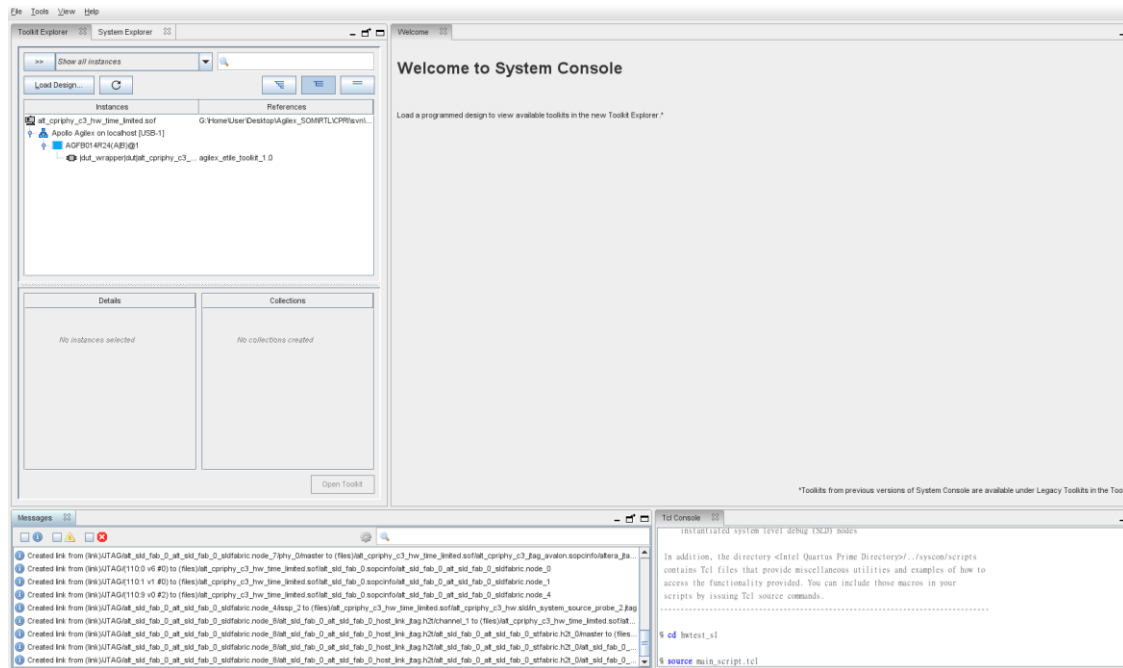

Figure 2-28 Launch the System Console for 24G CPRI Demo
11. In the System Console window, input the following commands to start the loopback test, as shown in **Figure 2-28**.